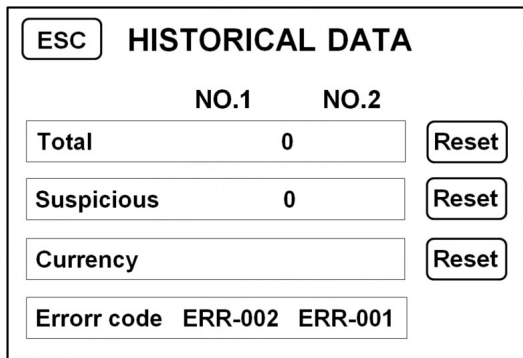

Figure 52
3) Touch the corresponding "Reset" key on the right to clear the data, and the display interface is shown in Figure 52 below: